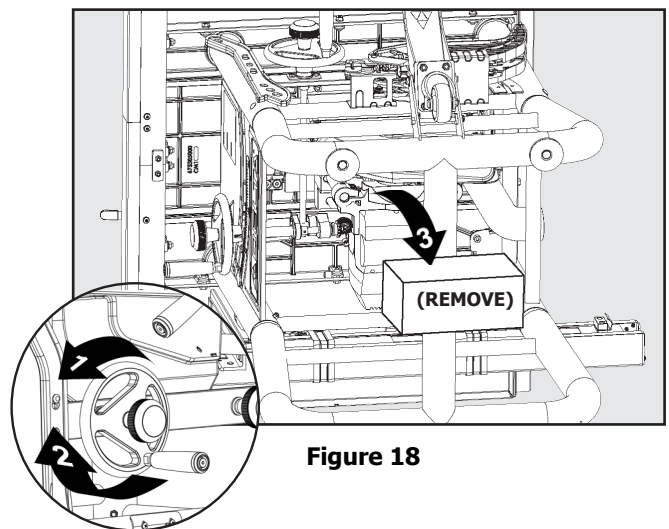

Figure 18
**IMPORTANT:** Before raising Blade you **MUST** release Bevel Lock and tilt Blade 45° and remove styrofoam block under Motor Housing. See Figure 18.